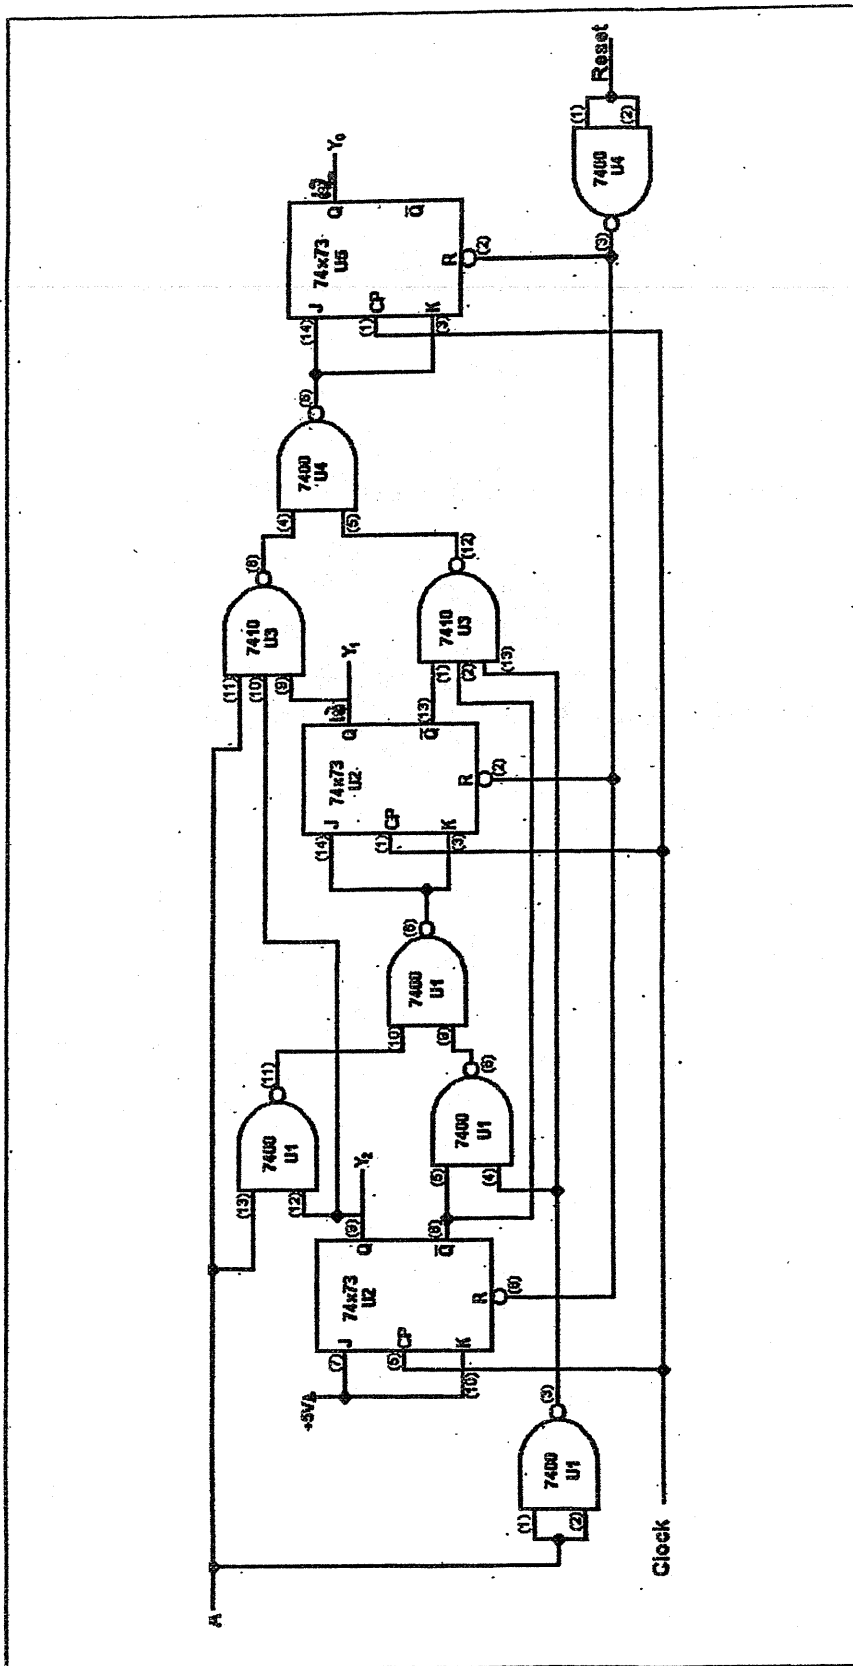

Figure 5.2
- 3) Analyze the sequential counter circuit shown in Figure 5.2. Derive the state transition table and diagram.
Connect the counter circuit given in Figure 5.2. Verify its functionality by testing all possible counter values. Record the results in a state transition table.